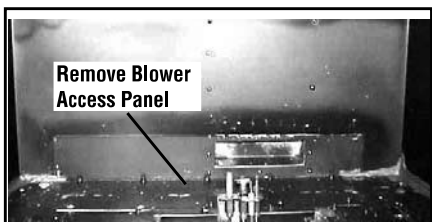

Figure 10 EDVI35
12. (EDVI35 only) Remove the screws around the perimeter of the blower access panel, then lift out and set aside (see **Figure 10**).